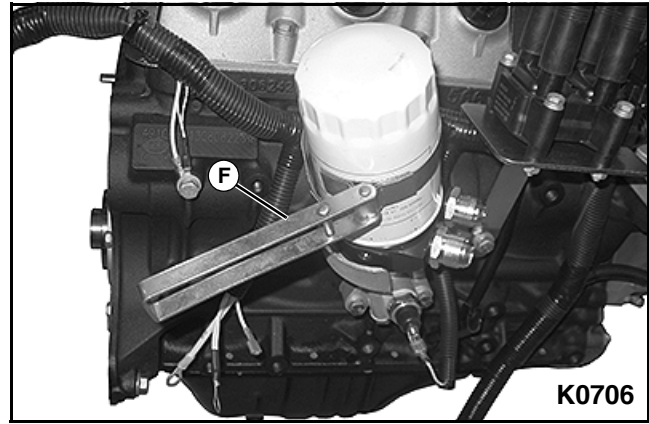

Figure 5-17
7. Lightly screw in the new oil filter by hand until you feel resistance. Using the oil filter wrench (F), tighten the filter an additional 3/4 turn, 25 N•m (18.4 ft.lbs.). **See Figure 5-17.**